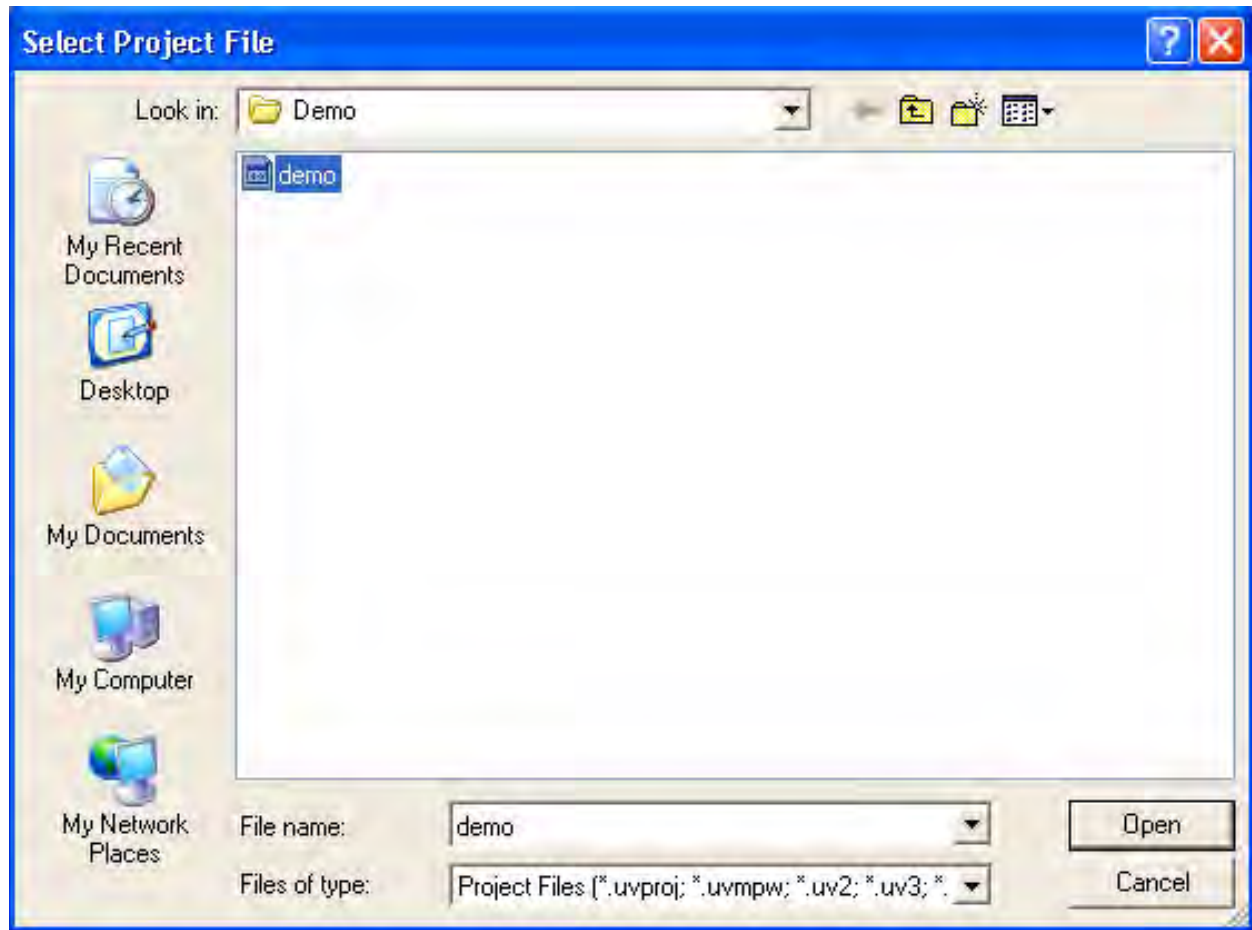

Figure 23. Selecting the Demo Project File
3. Select the `Demo.uvproj` file and click **Open**; see Figure 23.